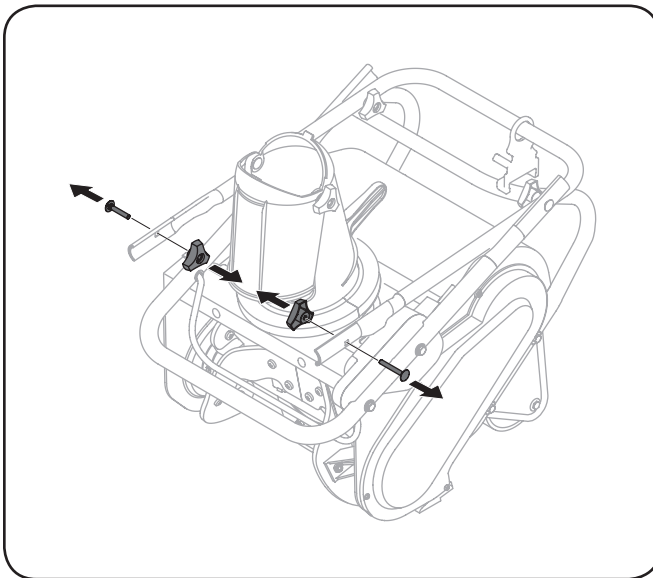

Figure 3-1
1. Remove the bolts and wing knobs inserted at the base of the upper handle. Save for later use. See Fig. 3-1.